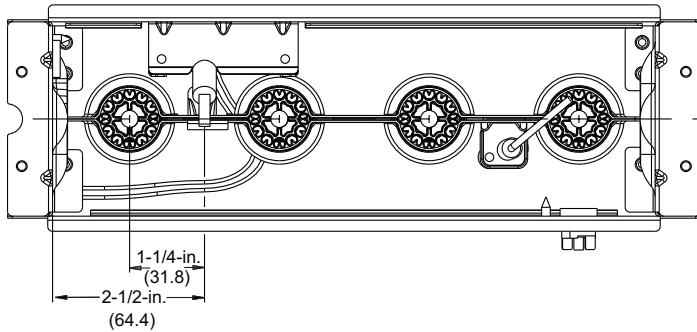
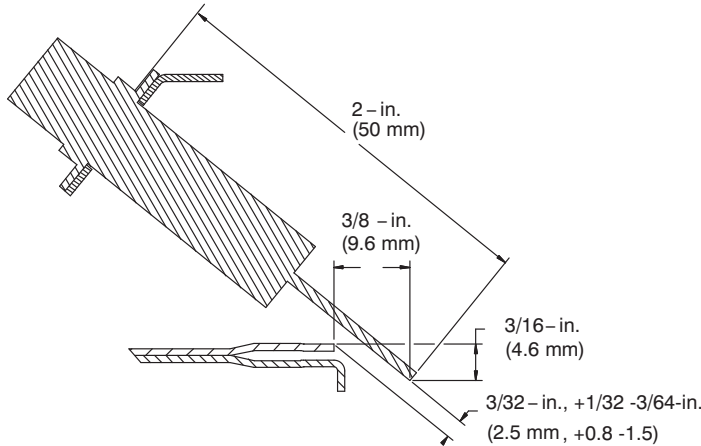

Fig. 9 – Igniter Position - Back View
Fig. 10 – Igniter Position - Side View
3. Verify igniter to burner alignment. See Fig. 9 and Fig. 10.